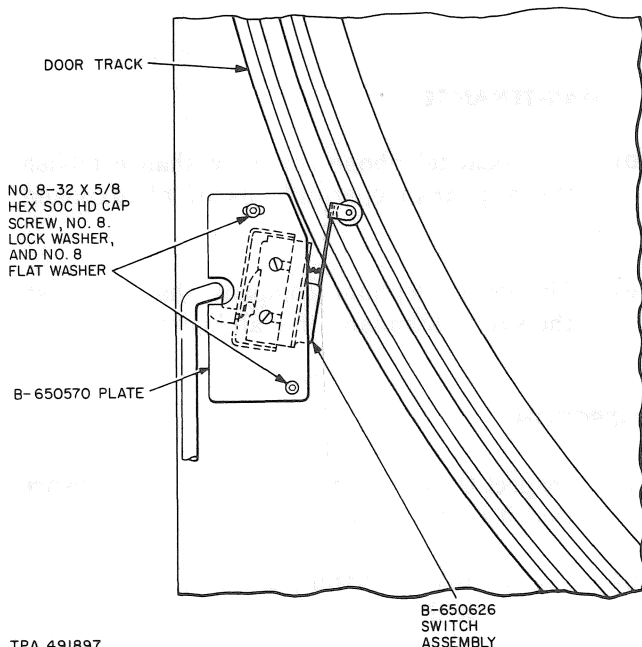

Fig. 7—B-650626 Door Operated Micro Switch Assembly
3.10 The blower motor and, in some cases, the light fixture are controlled by a door operated micro switch assembly (B-650626, Fig. 7). If the
- (1) Remove roof from booth.
- (2) Loosen the adjusting screw (Fig. 7).
- (3) Slide the switch mounting plate in or out as necessary.
- (4) Open and close the door to determine the proper switch position.
- (5) Tighten the adjusting screw.
- (6) Install the roof.